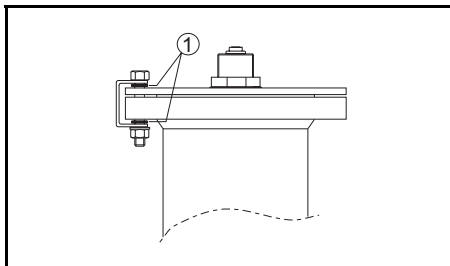

Figure 7.5 Example of flange ground connection
To ensure a good grounding between the adapter plate and the flange, a copper strip must be placed under one of the flange bolts. A shark ring (1) should be placed between flange and strip (see figure 7.5).